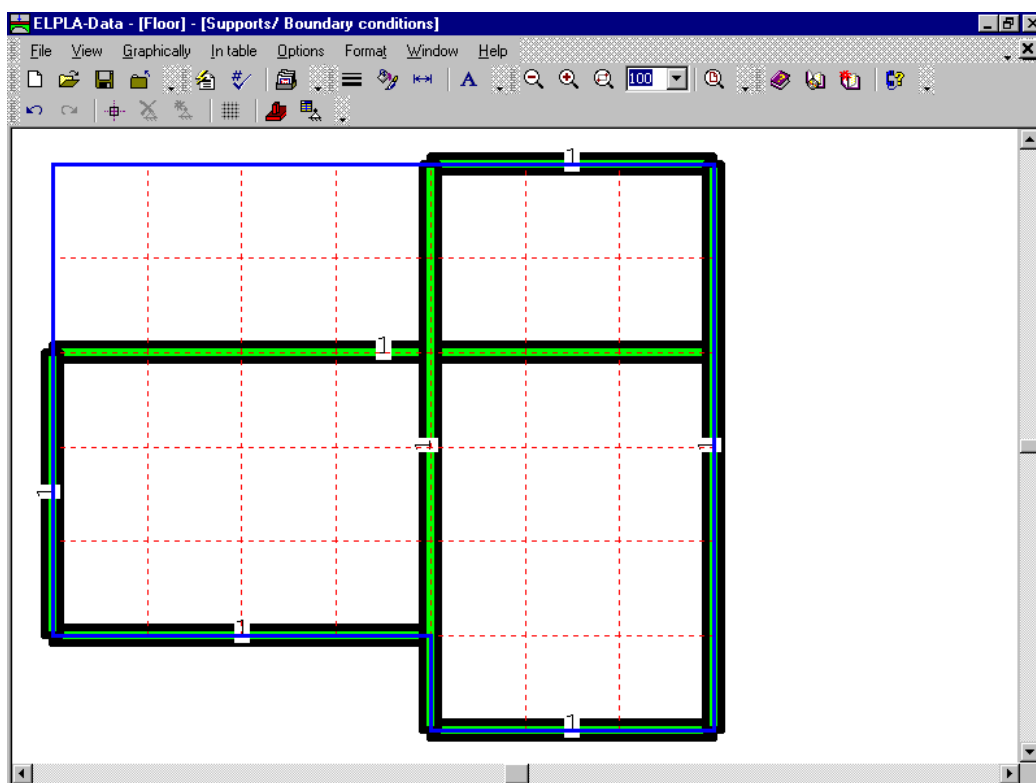
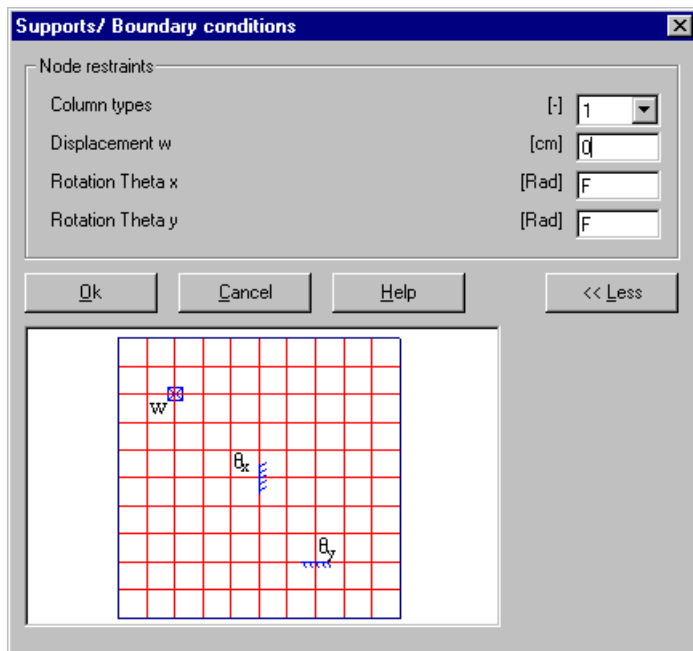

Figure 2-23 Girders in the window of the "Supports/ Boundary conditions" embedded program
Figure 2-25 "Supports/ Boundary conditions" dialog box
After clicking "OK" in the "View grouping" check group box, the screen should look like the following Figure 2-23.
- Choose "Select nodes" command from the "Graphically" menu in Figure 2-23. When "Select nodes" command is chosen, the cursor will change from an arrow to a cross hair
- Click the left mouse button on nodes that have supports as shown in Figure 2-23
- After selecting nodes of supports, choose "Add boundaries" command from "Graphically" menu (Figure 2-23). The "Supports/ Boundary conditions" dialog box in Figure 2-25 appears